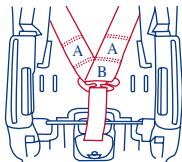
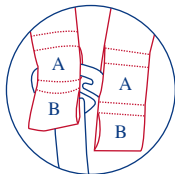

Fig. 31-2
Fig. 31-3
- Reassemble the Harness Straps to the Belt Adjuster Plate. Do the left Harness Strap first, followed by the right Harness Strap. Check that Harness Straps are completely within the Belt Adjuster Plate loop (Fig. 31-2). You have two adjustment positions on the harness. Use Position A for a smaller child, and Position B for a larger child. If using Position A, loop B must be on top of the Belt Adjuster Plate. (Fig. 31-3)